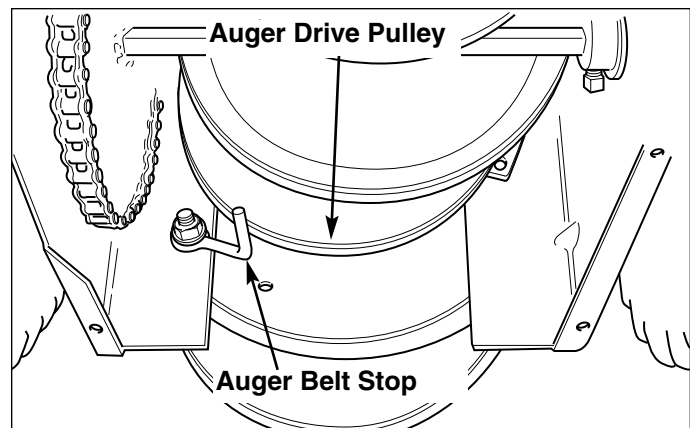

Figure 29. Auger Drive Pulley and Belt Stop
8. Loosen hex screws securing the belt stop (Figure 29), and pivot the belt stop away from the pulley to permit removal of belt.